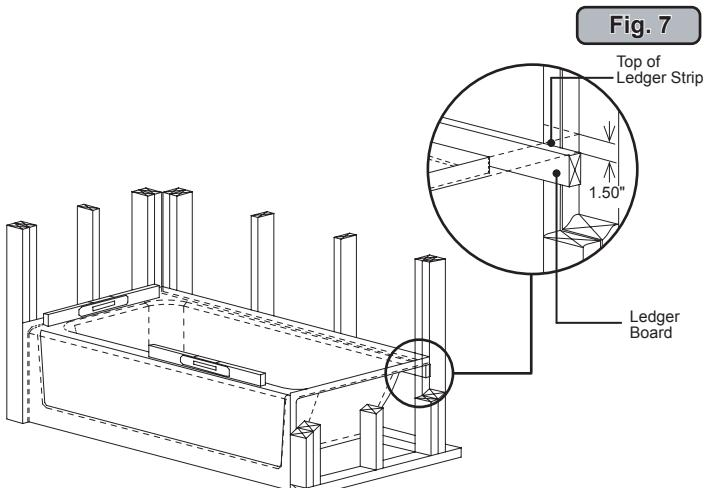

Fig. 7
1. Place the tub in the alcove with the front skirt firmly on the floor. The bathtub must be set level. To check, use a level on top of the ledges on both ends of tub and on top of dam (Figure 7).
2. After leveling tub, mark each stud (concrete or block wall) immediately above the back horizontal flange. Remove tub from alcove. Measure the distance between the top of the back horizontal flange and the bottom of the tub ledge approximately  $1\frac{1}{2}$ " (40mm). Carefully mark this dimension on the back studs (or wall), below the first mark (Figure 7 inset).
3. Install a Ledger Strip: Jacuzzi mandates the use of supports under the rear ledges of bathtubs to prevent shifting. Use horizontal ledger strip along the entire rear ledge or "I", "T" supports in at least two places in vertical position. Nail a 1" x 3" x 60" (25mm x 75mm x 1525mm) ledger strip immediately below the lower marks made on framing (Figure 7 - inset).